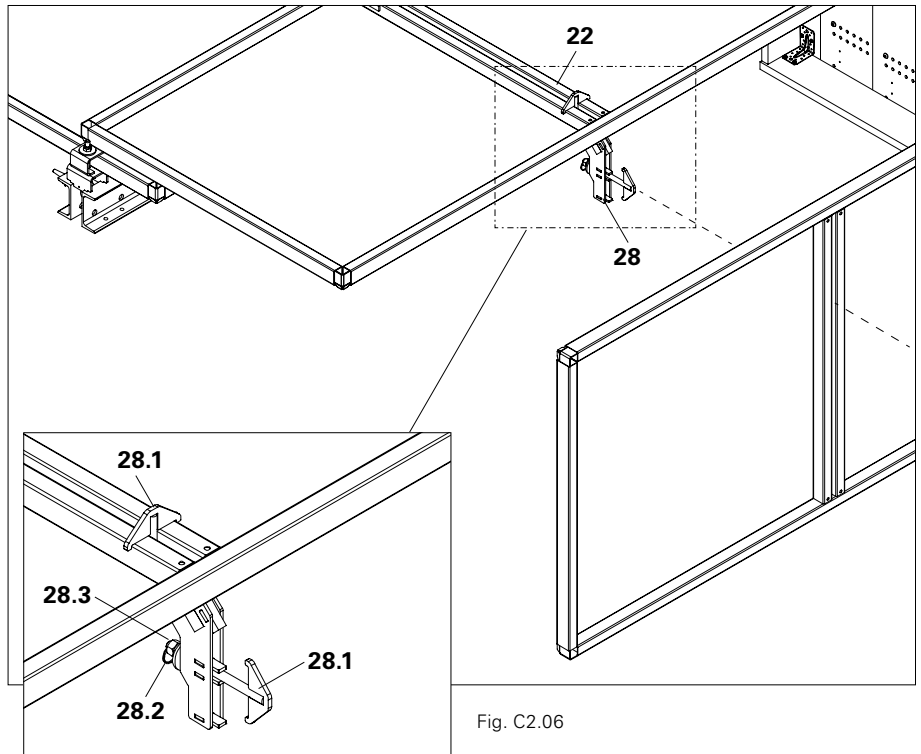

Fig. C2.06
2. Turn Screen Anchor Plate (28.1) by 90° with ring, tighten with Nut M16 and secure with lock nut. (Fig. C2.06)